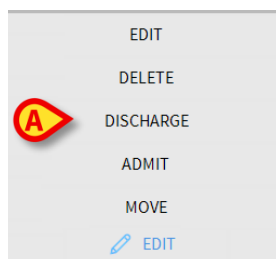

Fig 117
A menu containing various options opens (Fig 117).
- Click the **Discharge** button (Fig 117 **A**)